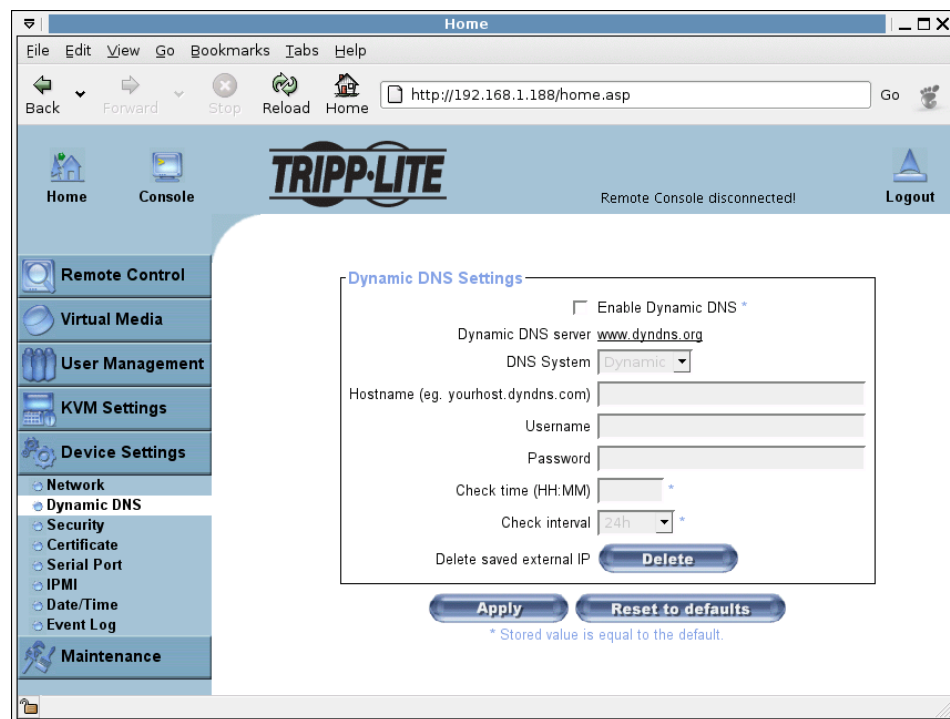

Figure 6-27. Dynamic DNS
- Enter the Dynamic DNS Settings configuration dialog as shown in Figure 6-27.